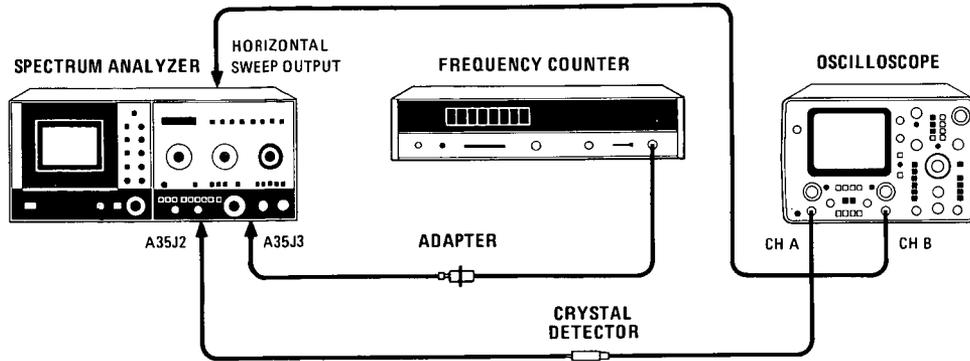

Figure 5-34. Second Converter Adjustment Test Setup
- a. Set LINE switch OFF, disconnect power cord, connect equipment as shown in Figure 5-34, and remove 8565A bottom cover.